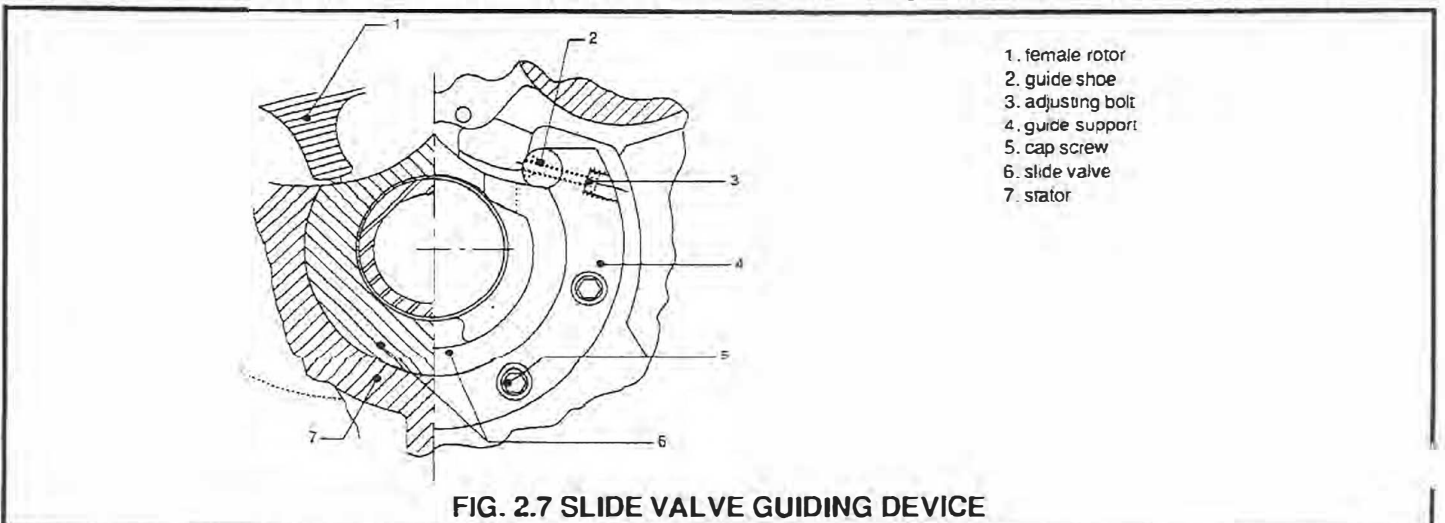

FIG. 2.7 SLIDE VALVE GUIDING DEVICE
- To prevent the slide valve from touching the rotors by rotating around its axial axis or by being lifted out of its bore (by oil pressure), a guiding device (30 in fig. 2.3) is provided on the discharge end of the valve, mounted just outside the stator on its end face. Refer to fig. 2.7 for design details of this device, which basically consists of a horse-shoe shaped guide support and two adjustable guide shoes resting on each upper side of the slide valve.